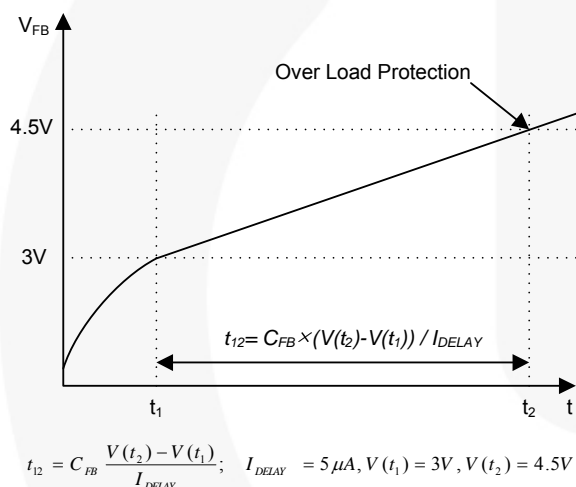

Figure 19. Overload Protection (OLP)
**4.1 Overload Protection (OLP):** Overload is defined as the load current exceeding a pre-set level due to an unexpected event. In this situation, the protection circuit should be activated to protect the SMPS. However, even when the SMPS is operating normally, the overload protection (OLP) circuit can be activated during the load transition. To avoid this undesired operation, the OLP circuit is designed to be activated after a specified time to determine whether it is a transient situation or an overload situation. If the output consumes more than the maximum power determined by  $I_{LIM}$ , the output voltage ( $V_O$ ) decreases below its rating voltage. This reduces the current through the opto-coupler LED, which also reduces the opto-coupler transistor current, thus increasing the feedback voltage ( $V_{FB}$ ). If  $V_{FB}$  exceeds 3V, the feedback input diode is blocked and the  $5\mu A$  current source ( $I_{DELAY}$ ) starts to charge  $C_{FB}$  slowly up to  $V_{CC}$ . In this condition,  $V_{FB}$  increases until it reaches 4.5V, when the switching operation is terminated, as shown in Figure 19. The shutdown delay time is the time required to charge  $C_{FB}$  from 3V to 4.5V with  $5\mu A$  current source.